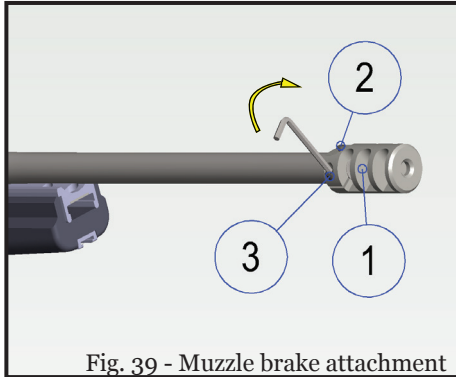

Fig. 39 - Muzzle brake attachment
The Muzzle brake (Fig. 39) is correctly positioned when the gas ports (1) are positioned to the sides and the mirage strap fitting screw (2) is pointing upwards.